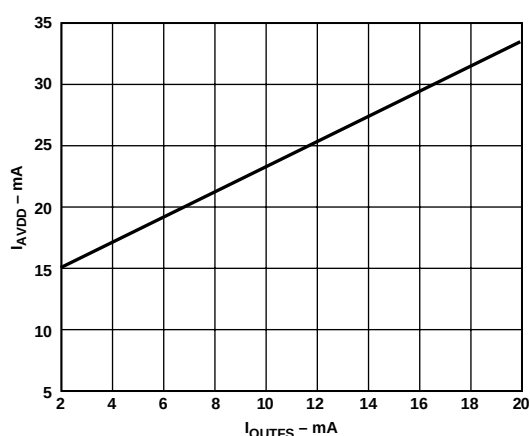

Figure 25.  $I_{AVDD}$  vs.  $I_{OUTFS}$
The power dissipation,  $P_D$ , of the AD9750 is dependent on several factors which include: (1)  $AVDD$  and  $DVDD$ , the power supply voltages; (2)  $I_{OUTFS}$ , the full-scale current output; (3)  $f_{CLOCK}$ , the update rate; (4) and the reconstructed digital input waveform. The power dissipation is directly proportional to the analog supply current,  $I_{AVDD}$ , and the digital supply current,  $I_{DVDD}$ .  $I_{AVDD}$  is directly proportional to  $I_{OUTFS}$  as shown in Figure 25 and is insensitive to  $f_{CLOCK}$ .